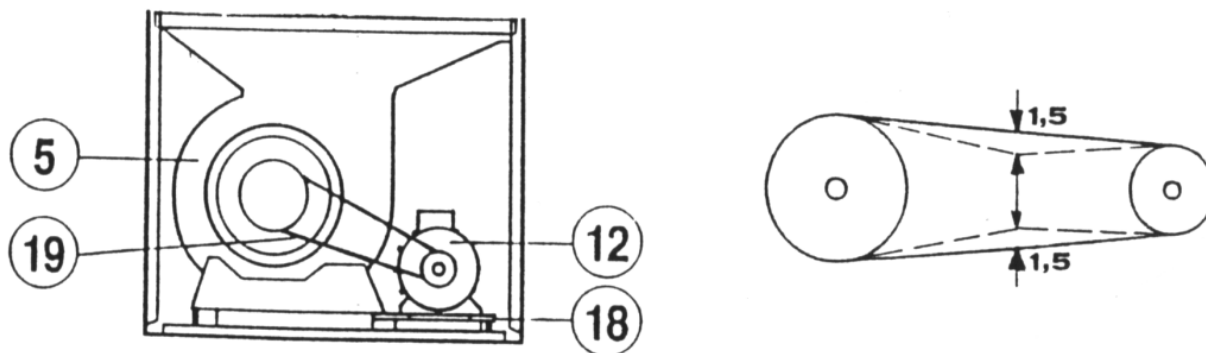

Fig 8 Warm air heater components
- The belt tensioning. Grasp them: they must not become loose by more than 2-3 cm (see fig 8). To adjust tensioning, screw or unscrew the belt tightening bolt on the motor slide (18).